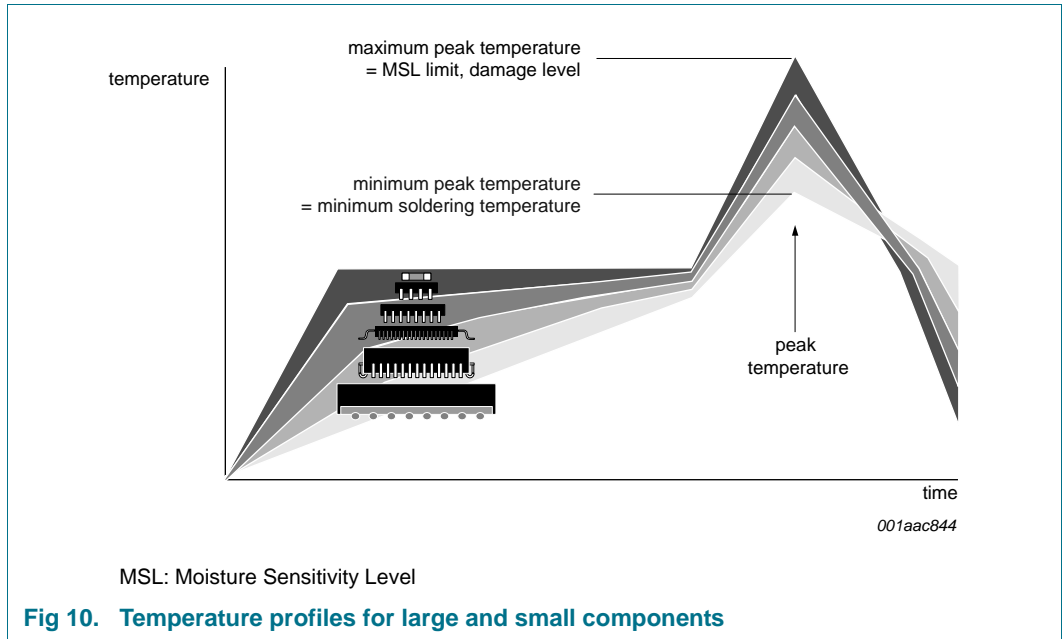

Fig 10. Temperature profiles for large and small components
- Lead-free versus SnPb soldering; note that a lead-free reflow process usually leads to higher minimum peak temperatures (see Figure 10) than a SnPb process, thus reducing the process window
Studies have shown that small packages reach higher temperatures during reflow soldering, see Figure 10.